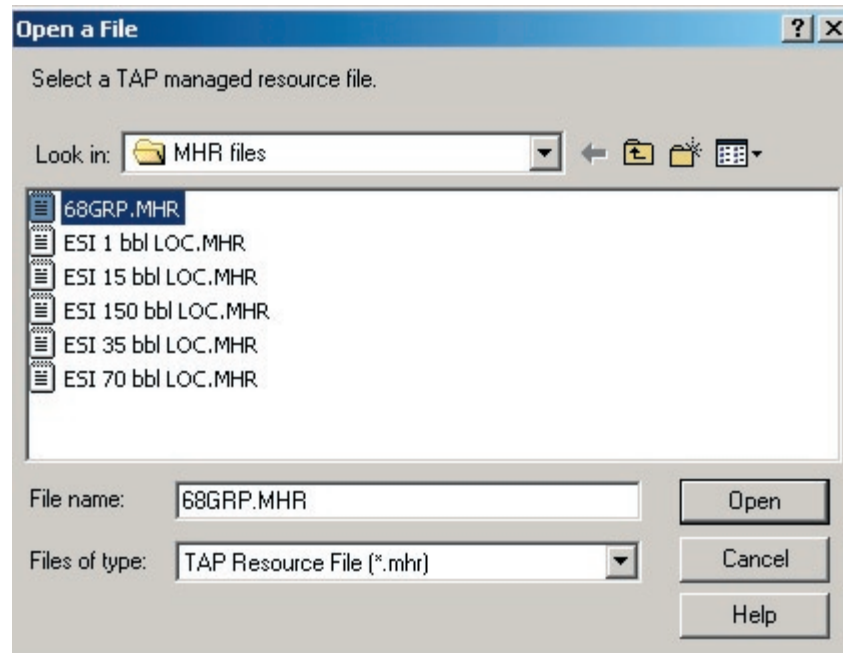

Figure 43. Example selecting geographical response plans as a resource.
- 6** Click on the GRP.mhr. See figure 43.